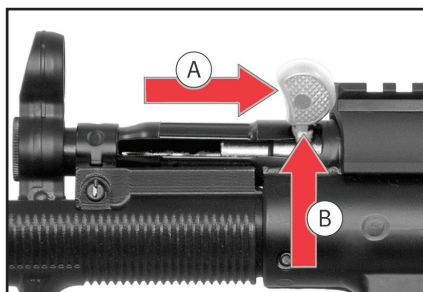

Fig. 8 – Lock charging handle
2. Pull charging handle all the way back and hold it (Fig. 8-A).
3. Lock charging handle upwards into recess notch in receiver (Fig. 8-B). The bolt group is held in rear position.